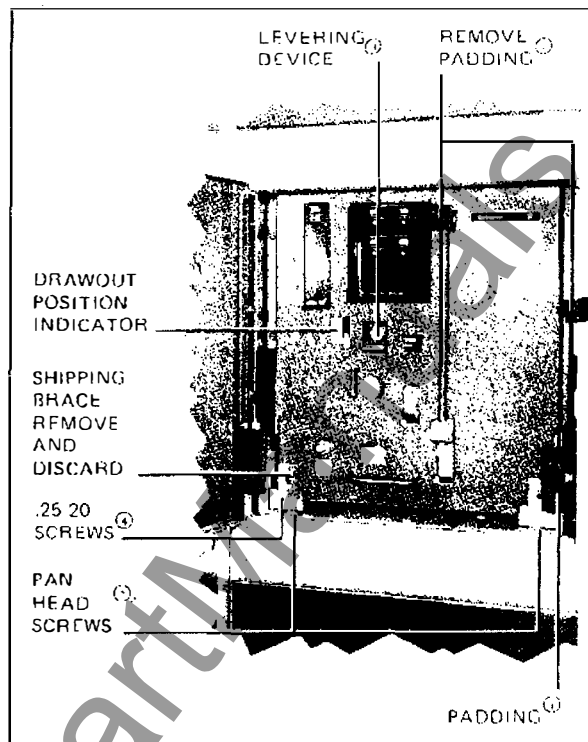

Fig. 25 Front View of Type DS-416 Breaker Shipped in Compartment (390896)
Each unit is fastened to the floor channels by either bolting or welding as shown in Fig. 25. If bolting is to be used, the mounting bolts must be placed in the floor steel before the concrete is poured to assure that the tapped holes will not fill with concrete. Welding is a quick and easy method of securing the switchgear assembly in place and eliminates the layout of the mounting holes in the channels.
Before the circuit breaker element can be withdrawn from its compartment for the first time, the shipping braces must be removed from the lower part of the breaker front panel. Refer to Fig. 25. During shipment, the front wheels of the breaker are lifted approximately 1/16 inch above the compartment rails; and the unit is held part way between disconnected and test positions by means of its levering device.
NOTE: Step numbers below correspond to numbers on Figs. 25 and 26.
1. Remove the sponge rubber padding and tape from the compartment rails and the knob on the top of the spring charging handle. (Shown in Fig. 25.)
2. With a screwdriver, remove the two (2) outside .25-20 pan head screws from the bottom leg of the shipping braces. Do not discard, as later they will be returned to their tapped holes. Do not remove the center screw.